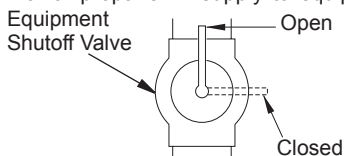

Figure 9 - Equipment Shutoff Valve
1. Close equipment shutoff valve (see Figure 9).
1. Open equipment shutoff valve (see Figure 9).
- Close equipment shutoff valve (see Figure 9, page 12).